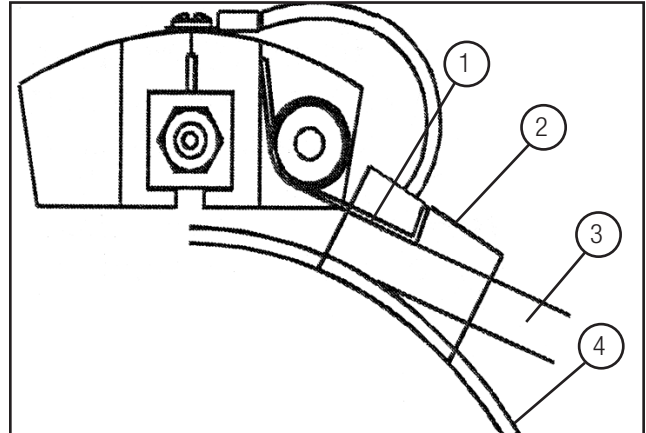

Figure 15-1
2. Brushes should be centered on slip rings and brush springs should be seated in terminal post grooves. Terminal screw connections should be tight. Check for excessive brush wear. Replace brushes as necessary. See **Figure 15-1**.